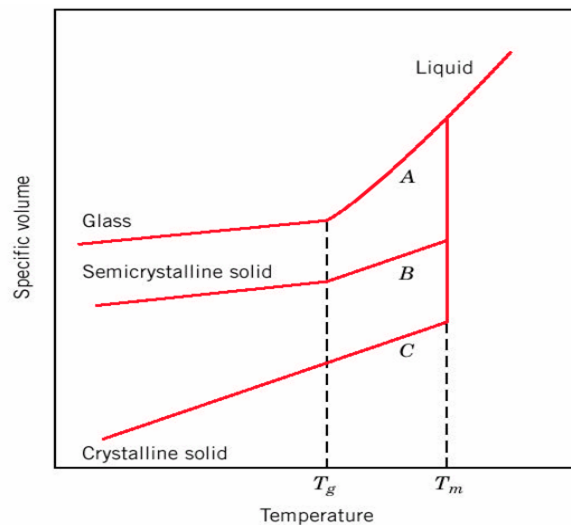

Figure 5: The variation of specific volume with temperature for amorphous polymer (glass), semi-crystalline polymer and pure crystalline materials
- [c] Figure 5 shows the variation of specific volume with temperature for amorphous polymer (glass), semi-crystalline polymer and pure crystalline materials. Discuss why the change in volume at glass transition temperature (T_g) and melting temperature (T_m) is the highest for amorphous followed by semi-crystalline and crystalline materials. Consequently, comment on why the change in specific volume is always higher at melting temperature (T_m) than at glass transition temperature (T_g).